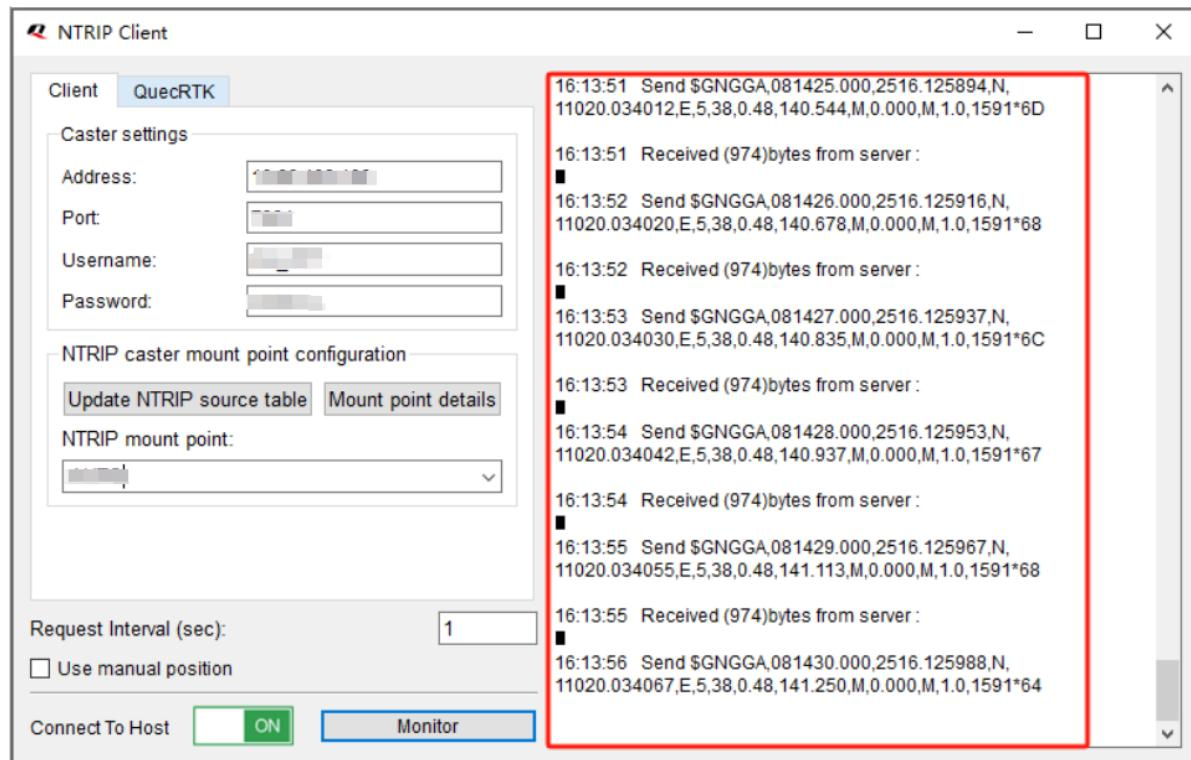

Figure 27: Connected to Server Successfully
Step 6: Switch ON the “**Connect to Host**”. If the configuration is correct, you can see the messages sent to the RTK server and differential data received in the box on the right as shown in Figure 27: Connected to Server Successfully.